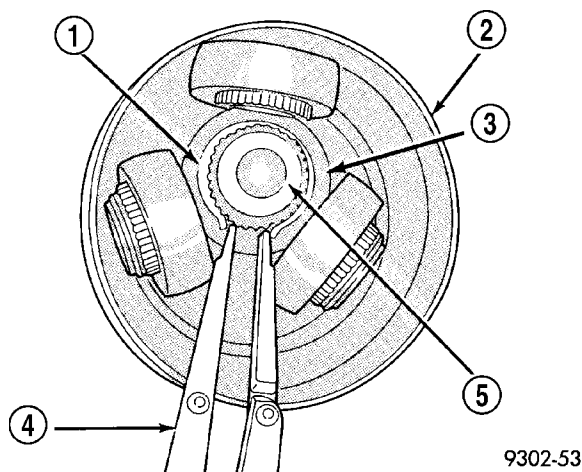

Fig. 23 Spider Assembly Retaining Snap Ring
(4) Remove snap ring which retains spider assembly to interconnecting shaft (Fig. 23). Then remove the spider assembly from interconnecting shaft. If spider assembly will not come off interconnecting shaft by hand, it can be removed by tapping the end of the spider body with a brass drift. **Do not hit the outer tripod bearings in an attempt to remove spider assembly from interconnecting shaft.**
(5) Slide failed sealing boot off the interconnecting shaft.
(6) Thoroughly clean and inspect spider assembly, tripod joint housing and interconnecting shaft for any signs of excessive wear. **If any parts show signs of excessive wear, the halfshaft assembly will require replacement. Component parts of the assemblies are not serviceable.**